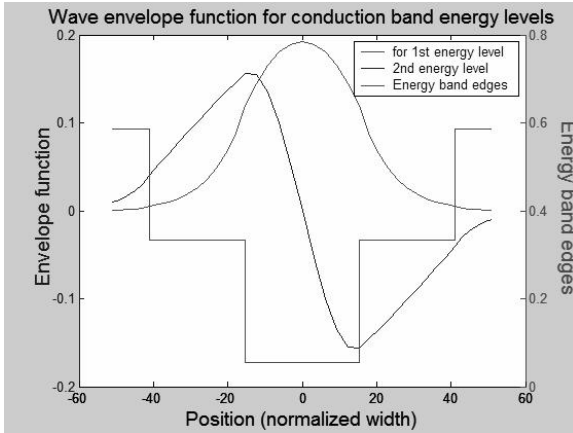
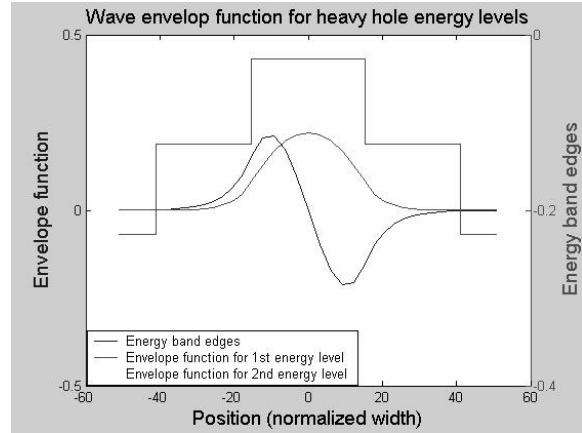
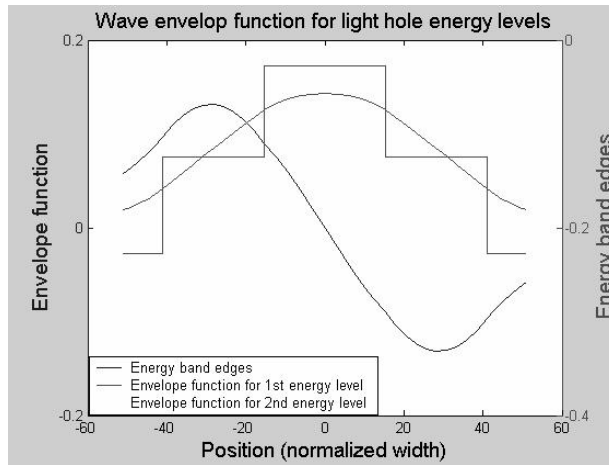

Fig. C.4.2. Wave envelope functions for energy levels in conduction band
Fig. C.4.3. Wave envelope functions for heavy hole energy levels
Fig. C.4.4. Wave envelope functions for light hole energy levels
b) The main output file from this part of GAIN program is energy.dat, containing all the energy levels as shown in Table C.4.5. After the energy eigen values are calculated, the GAIN program asks the user whether he would like to check the wave envelope function or not. We suggest that the user check the wave envelope functions of the first and second energy levels for conduction and valence bands. The plots of the envelope functions are shown in Fig. C.4.2, Fig. C.4.3, Fig C.4.4.